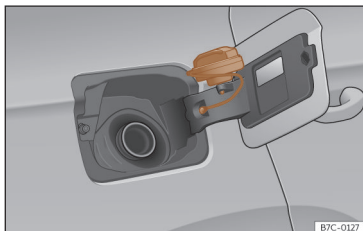

Fig. 176 Fuel tank flap with tank cap attached.
- Place it in the space on the hinge of the open flap >>> **Fig. 176**.